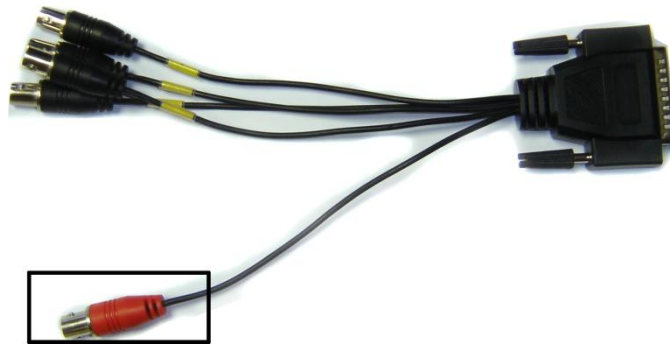

Figure 2.2-4 Connector of the analog video-out
3. Connect the interface cable of the analog monitor to the red BNC connector of the video-in cable connected to the video capture card (Figure 2.2-4).